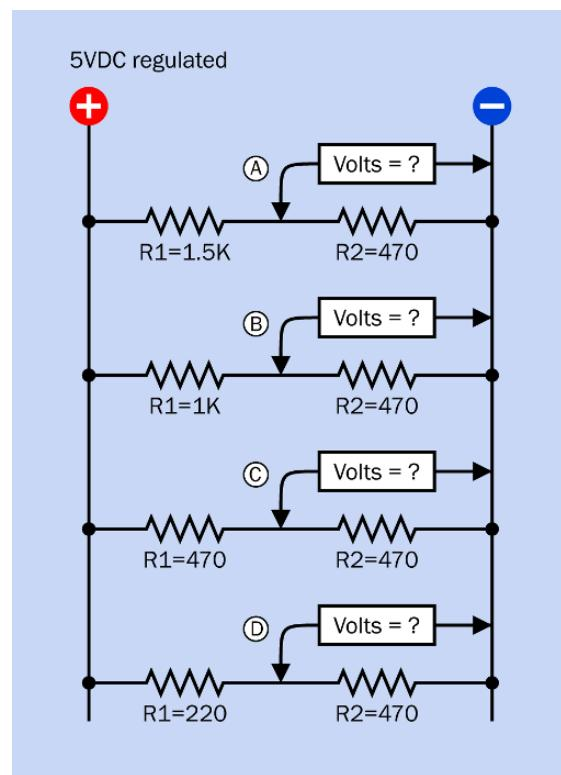

Figure 2-10. The concept of a voltage divider is fundamental in electronics. Make sure that you understand it clearly.
Take a look at **Figure 2-10**. In this schematic, instead of using a transistor in series with a 470Ω resistor, I've used various other resistors. Can you predict the voltages that will be measured at points A, B, C, and D? This is an experiment that
- $R2$ is the value of the resistor (in ohms) on the negative side (as in **Figure 2-10**).